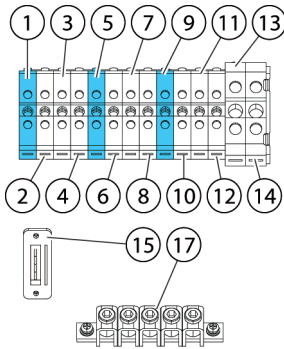
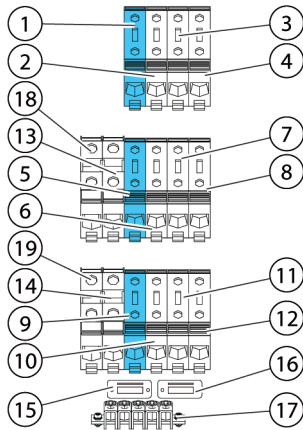

Figure 10. Power cable terminals in the 93PS 20 kW frame
Figure 11. Power cable terminals in the 93PS 40 kW frame
For the external separate battery option, there are separate terminals for both battery banks (cabinets). These terminals replace terminals 5 and 10 shown in Figure 11.
4. Connect the cables to the respective terminal blocks, see Figure 10 and Figure 11 .